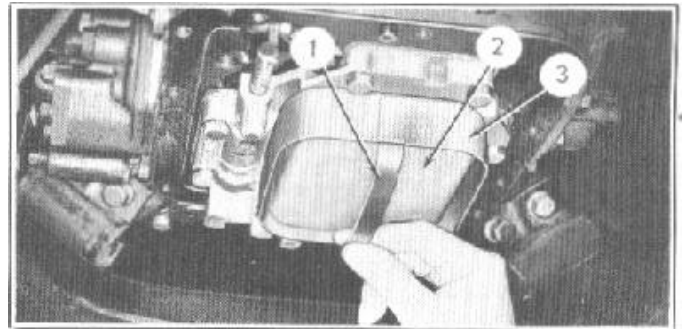

FIGURE 53
3. Remove the screen retainer (1), Figure 53, and screen (2).